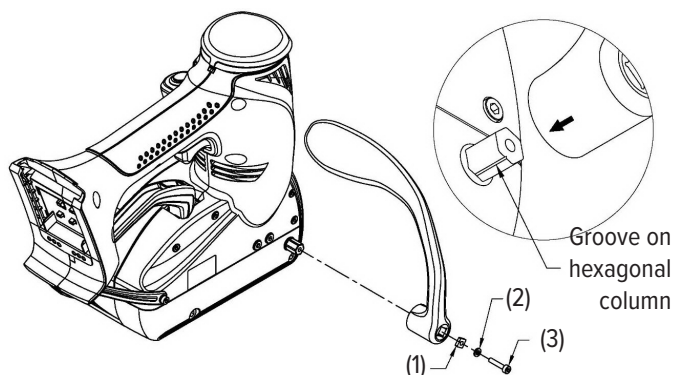

FIGURE 14. INSTALLATION OF CUTTING LEVER
- Insert the Cutting Lever into the hexagonal column position, and fix with (1) gasket, (2) M3 washer, and (3) screw M3x12mm as (FIGURE 14) shown.